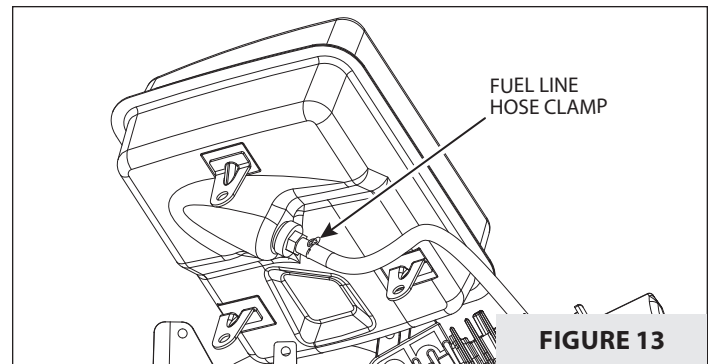

FIGURE 13
5. Gently lift tank off of the engine and disconnect the hose clamp. **SEE FIGURES 13 AND 14.**